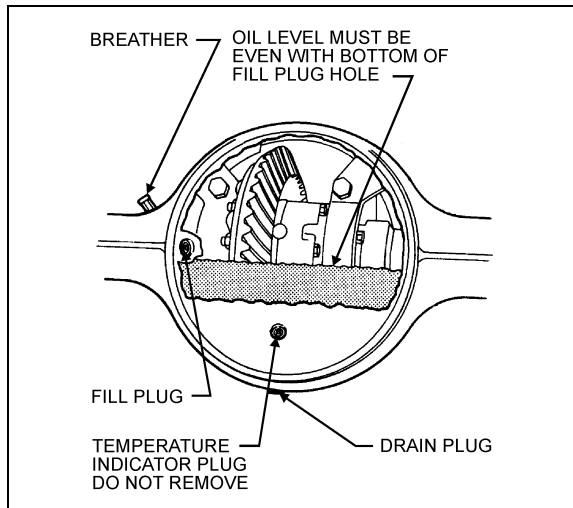

FIGURE 4: DIFFERENTIAL HOUSING BOWL 11007
Check oil level and add (if necessary) every 25,000 miles (40 000 km) or according to the fleet maintenance interval, whichever comes first (Figure 4).
3. Clean the area around the fill plug. Remove the fill plug from the differential axle housing bowl (Figure 4).